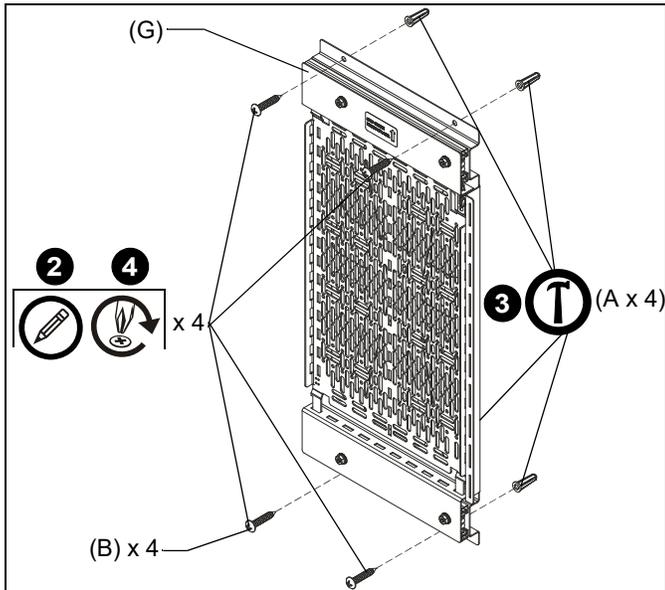

Figure 2
2. Using the CMSSP15X10 (G) as a template, mark the locations of four mounting holes. (See Figure 2)
3. Insert drywall anchors (A) at markings. (See Figure 2)
4. Fasten storage panel (G) to wall using four #10 x 1" Phillips pan wood screws (B). (See Figure 2)